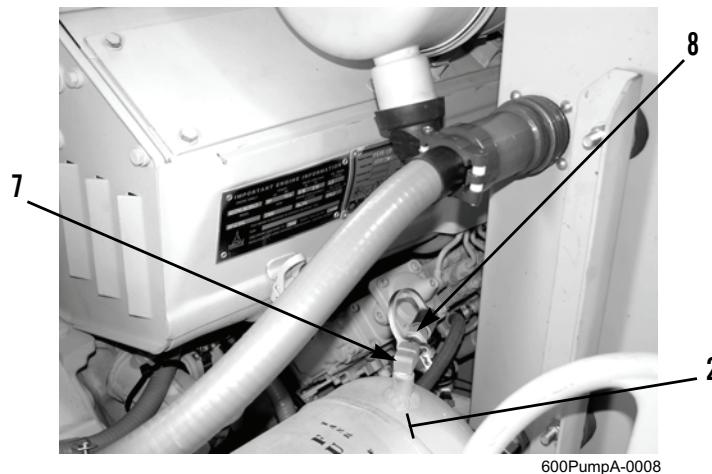

Figure 2. Fuel Jumper Hose Quick Disconnect Fitting.
4. FUEL PUMP ASSEMBLY. Remove quick disconnect fitting (Figure 2, Item 8) and elbow (Figure 2, Item 7) from discharge manifold (Figure 2, Item 2).